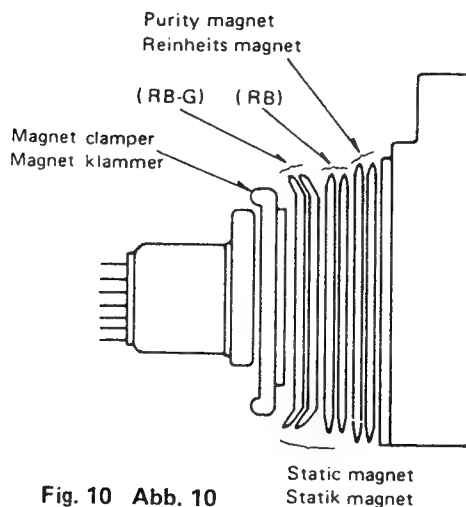

Fig. 10 Abb. 10
2. Unfix the convergence magnet clumper as in fig. 10 and align red with blue dots at the centre of the screen by rotating (R, B) static convergence magnets.
3. Align red/blue with green dots at the centre of the screen by rotating (RB)-G static convergence magnet.